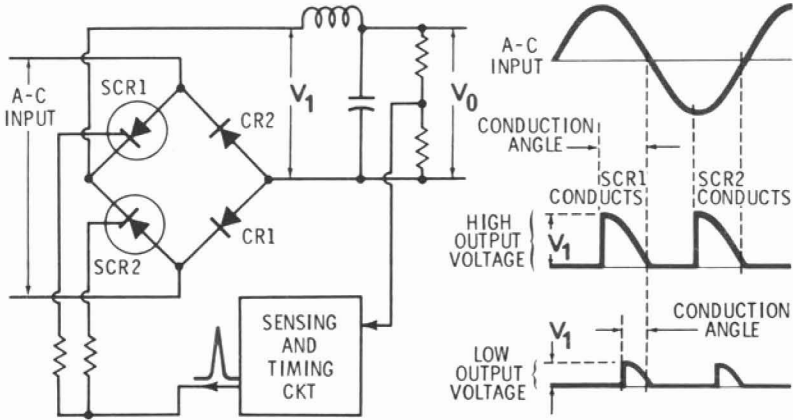

Fig. 6-13. Scr regulator.
An interesting application of the scr is the voltage-regulator circuit illustrated in Fig. 6-13. The circuit is not complete as drawn, but it does show the function of the scr's. SCR1, SCR2, CR1, and CR2 form a bridge-rectifier circuit. The box labeled SENSING AND TIMING CIRCUIT pulses the scr's so that the one that is forward biased by the a-c signal will be brought into conduction at the point in the a-c cycle which will give the desired d-c output. The output voltage is sensed by the sensing circuit which then applies a trigger to the gates of the scr's to cause the appropriate one to conduct
**Q6-13.** The conduction angle for the scr's in Fig. 6-13 is regulated by the triggers from the sensing circuit. A small conduction angle will give a (low, high) output voltage while a large conduction angle will give a (low, high) output voltage.